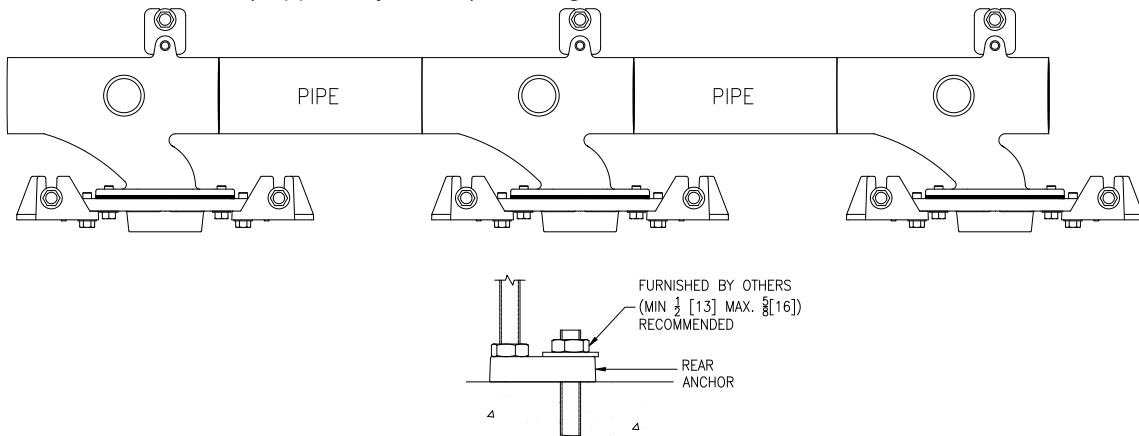

Fig. 10
10. Prep the floor for concrete anchors and place the carrier bank back into position. Lag down the feet using ½" [13mm] minimum anchors (supplied by others). See Fig. 10